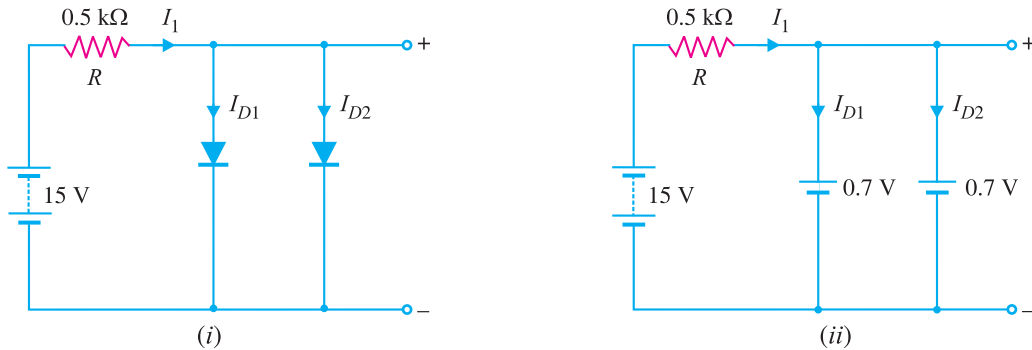

Fig. 6.15
**Example 6.8.** Determine current through each diode in the circuit shown in Fig. 6.15 (i). Use simplified model. Assume diodes to be similar.
**Solution.** The applied voltage forward biases each diode so that they conduct current in the same direction. Fig. 6.15 (ii) shows the equivalent circuit using simplified model. Referring to Fig. 6.15 (ii),